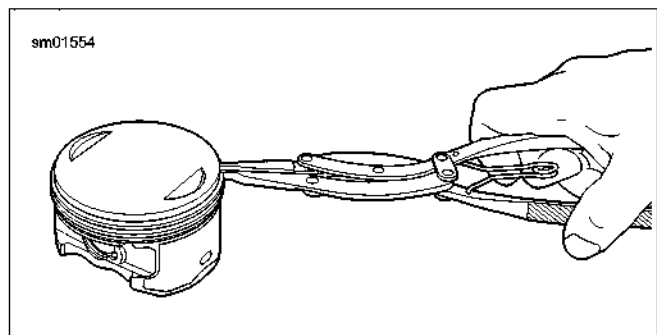

Figure 3-55. Installing Piston Rings
4. See Figure 3-55. Use a piston ring expander tool to slip compression rings over piston into their respective grooves. Install second compression ring first, then top compression ring. Be extremely careful not to over expand or twist rings, or damage piston surface when installing rings.